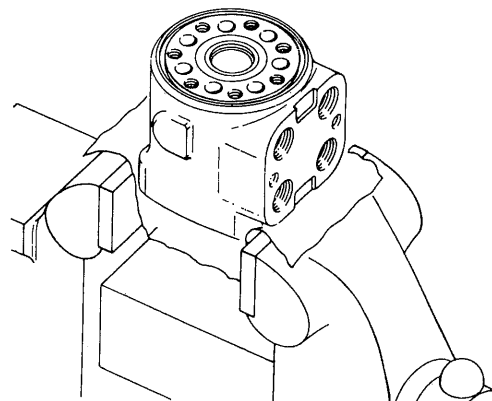

Fig. 145
- (18) Clamp housing flange in a vise lightly (Fig. 145).